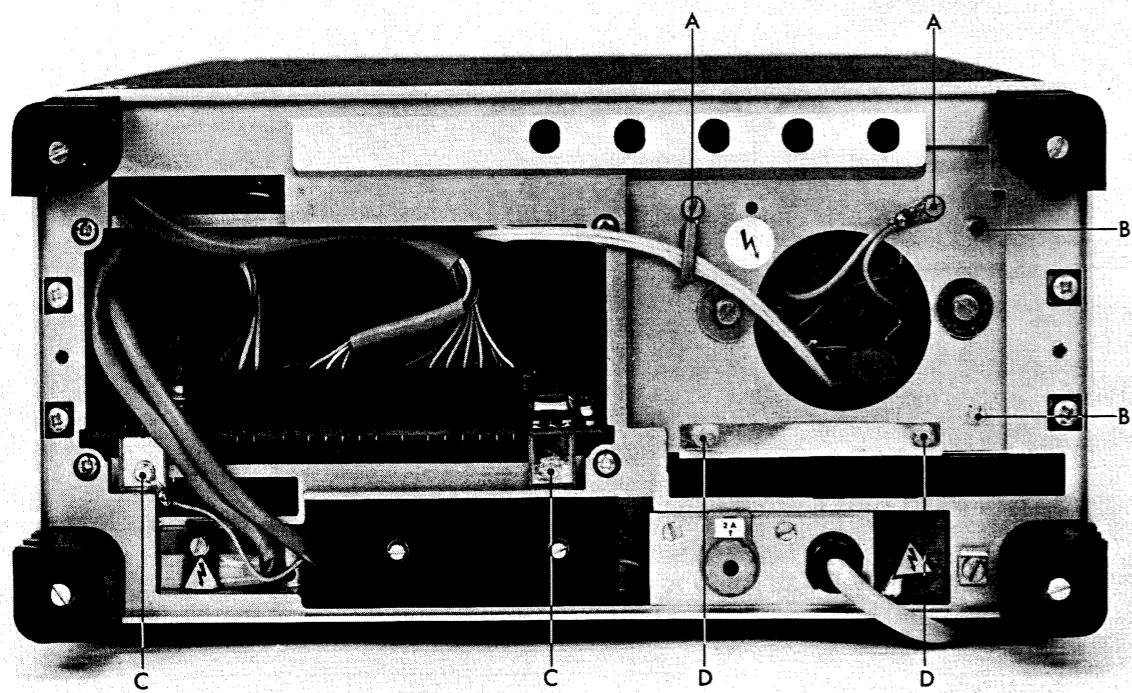

Fig. 3.4. Rear view with dismantling references
- Remove the two screws A that secure the supports to the rear panel (Fig. 3.4.)
- Remove the two screws B which secure the supports to the rear panel (Fig. 3.4.).
3.3.7. Removing the circuit board of the power supply (Fig. 3.4.)